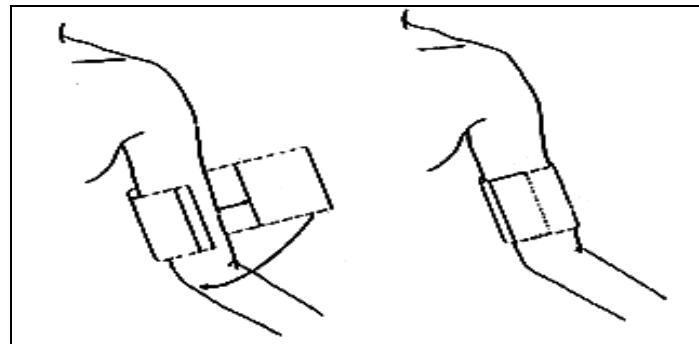

FIGURE 2-36 Application of the Blood Pressure Cuff
4. Apply the cuff to the patient as shown in FIGURE 2-36. To reduce errors, ensure that the cuff is deflated and lies directly against the patient's skin. The cuff should fit snugly. There should be no clothing between the patient's skin and the cuff